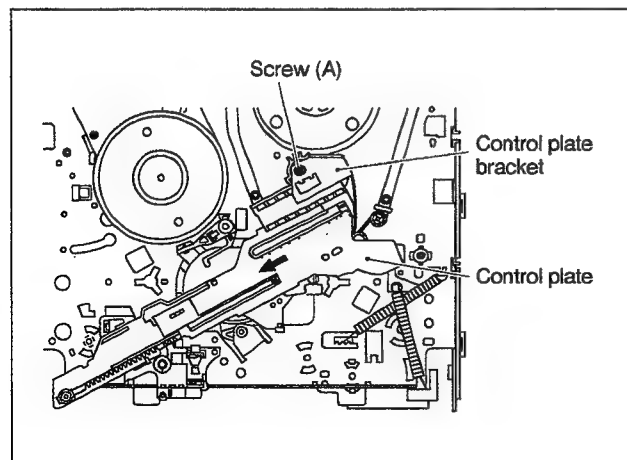

Fig. 2-2-23
- (1) Remove one screw (A) retaining the control plate bracket and remove the latter.
- (2) Slide the control plate as indicated by the arrow and remove the control plate. (See Fig.2-2-23)